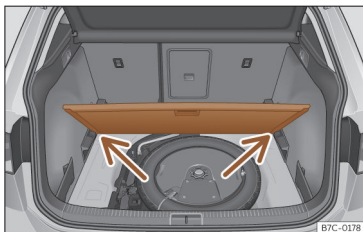

Fig. 162 Variable boot floor: tilted position.
- Rest the floor on its housings >>> **Fig. 162** (arrows).